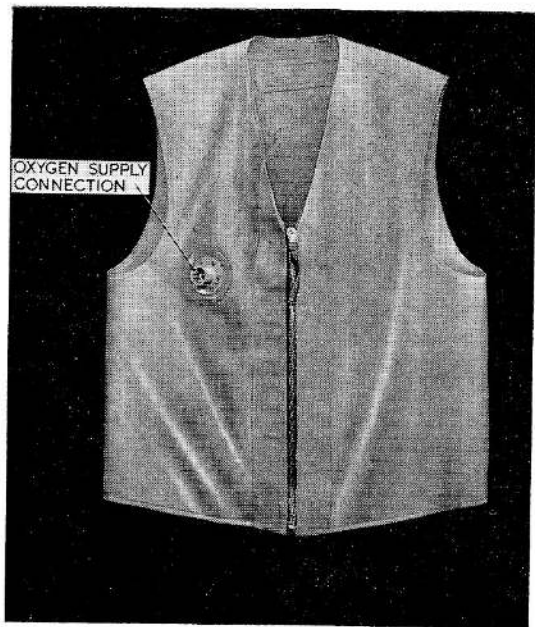

Fig. 12. Pressure waistcoat
28. The waistcoat (*fig. 12 and 13*) is made of fabric which is rubberized on one side. The garment is constructed in two layers, the rubberized surfaces of the fabric facing each other to form the oxygen compartment. The waistcoat is fastened at the front by a sliding fastener and final size adjustments are made by lacing on the inside of the back.